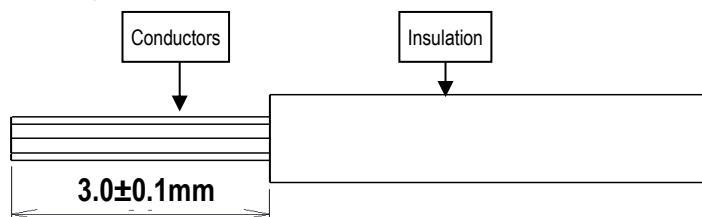

Fig.2 Wire strip
- ① Strip the insulation off by 3.0±0.1mm (see Fig.2)